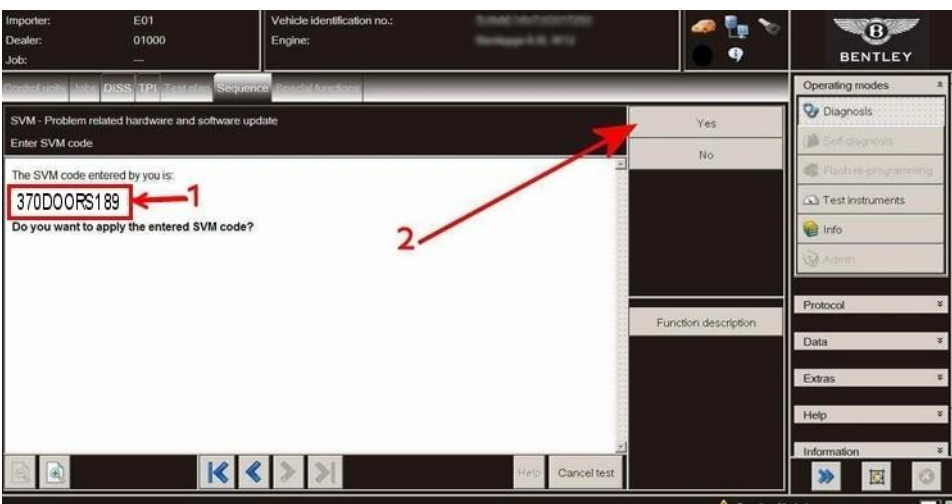

Figure 9.
5) Check you have entered the correct SVM code (1) and select Yes (2) and follow all on screen prompts – Figure 9.